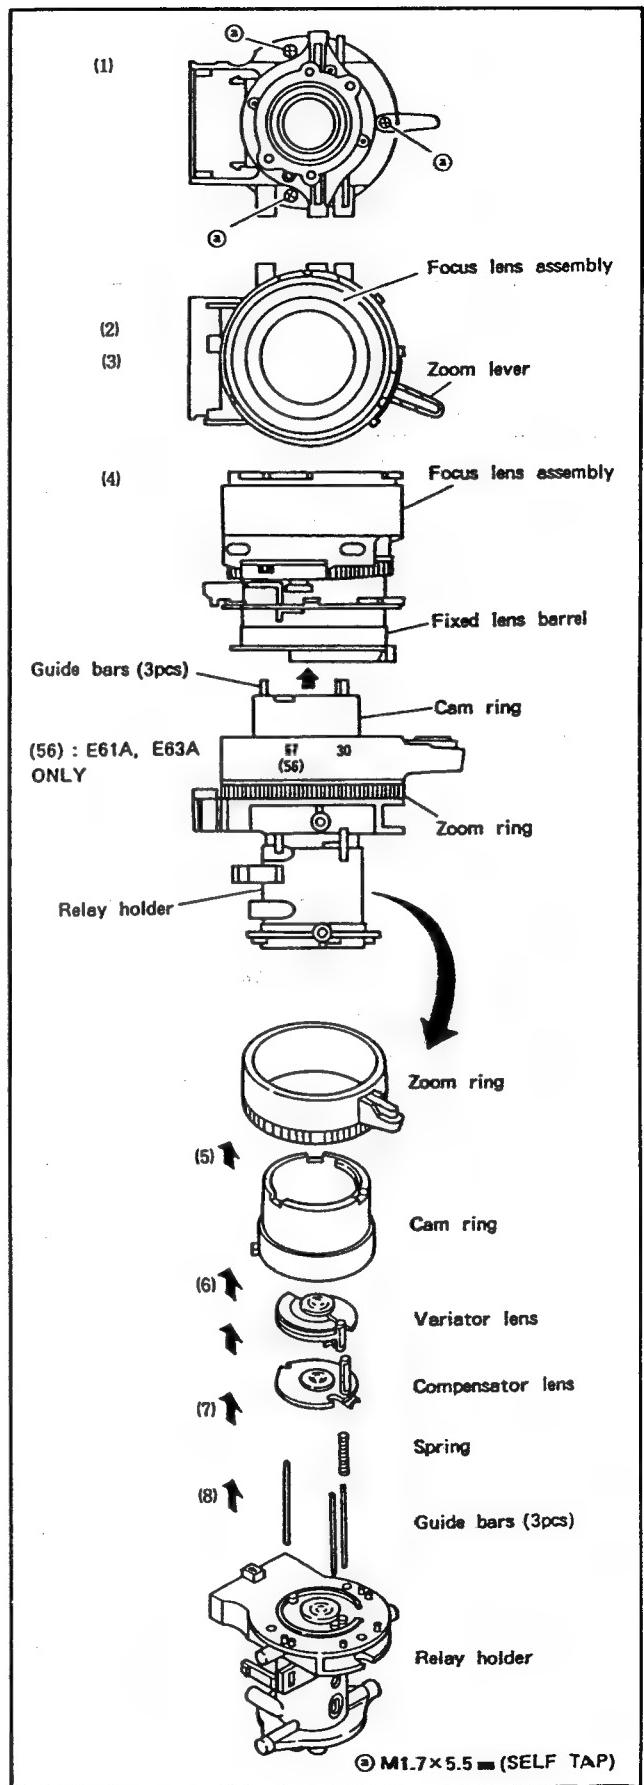

Fig. II-25
- (1) Remove three screw ①'s.
- (2) While steadyng the zoom section, turn the focus lens assembly up.
- (3) Set the zoom lever on the position as shown in the Fig. II-25.
- (4) While steadyng the zoom ring, dismount the focus lens assembly and the fixed lens barrel upward.
- (5) Remove the zoom ring.
- (6) Remove the cam ring.
- (7) Remove the variator and the compensator lenses.
- (8) Remove the spring and three guide bars.